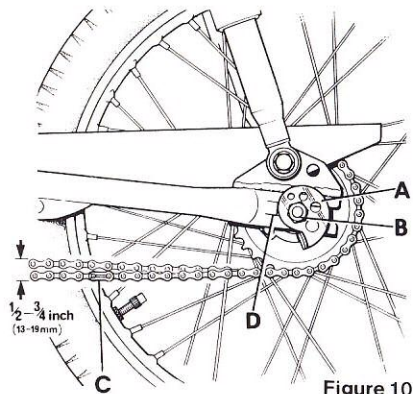

Figure 10
Support the moped on the stand, slacken both ends of the brake cable and disconnect at the wheel end. Remove the chain split link (C) Fig.10 taking care not to let the chain run off the sprocket at the power unit. Slacken well but do not remove the axle nuts. Lean the moped to the left, still on the stand, angle the wheel slightly in the swinging fork to disengage the brake anchor and lift the wheel rearwards and to the right, clear of the swinging arm.
Maintain the rear chain at the correct tension to prevent snatching, excess chain and sprocket wear. Providing the chain is lubricated as on Page 17, chain tension should only require infrequent attention. Cam type adjusters (A) shown in Fig.10 are used to move the wheel spindle along the fork end. To adjust, place machine on stand, slacken nuts (B) on both sides of the wheel and then rotate both adjusters (A) **by the same amount**, a little at a time until the free play (see Fig.10) on the bottom run of the chain is between 13 mm ($\frac{1}{2}$ ") and 19 mm ($\frac{3}{4}$ ") at the midway point. Revolve wheel to ensure chain is adjusted at its tightest point. Ensure the adjusters rest on the abutment (D) and are in line with each other. Hold the adjusters in the correct position until the spindle nuts are fully tightened.